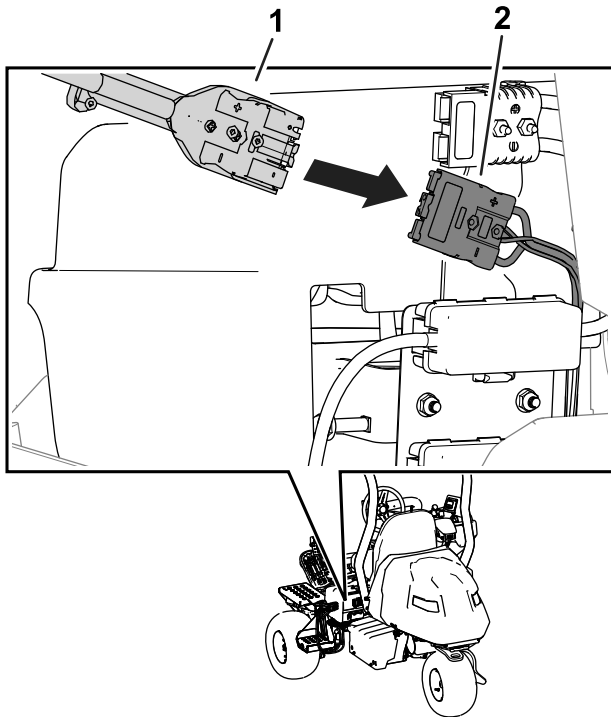

Figure 35
7. Slide the charger-output connector into the charger connector on the machine (Figure 35).